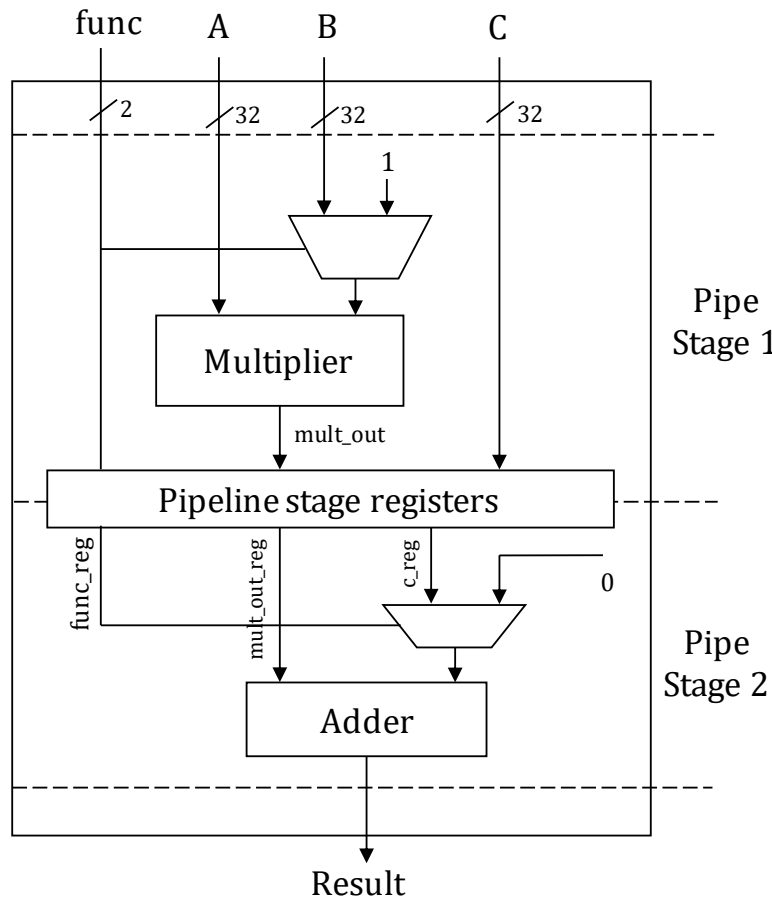

Figure 1: Fused Mult-Add Functional Unit
1. Implement the Multiply-Add-Fused (MAF) Functional Unit shown in Figure 1